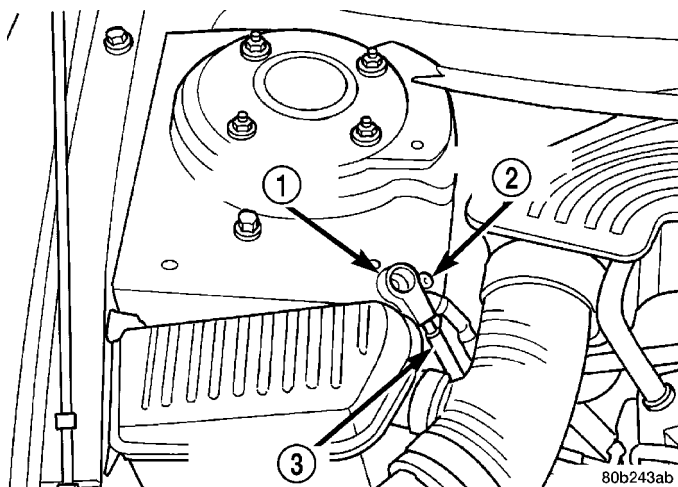

Fig. 101 Correctly Isolated Remote Ground Cable
(1) Remove remote ground cable from ground stud on shock tower. Then correctly isolate ground cable from vehicle by installing isolator on stud (Fig. 101).